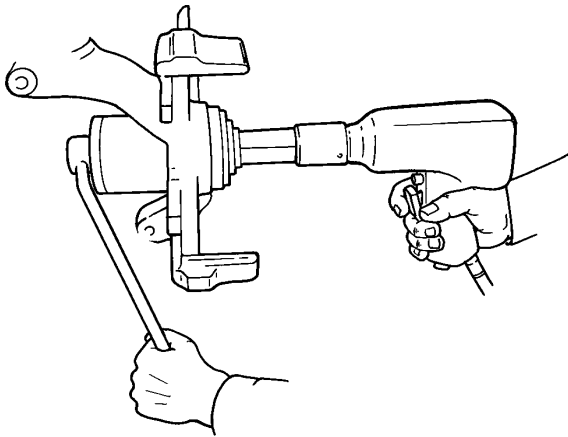
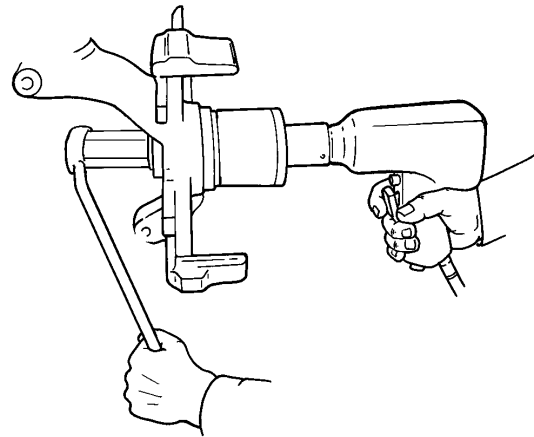

Figure 3
Figure 4
3. Use a wrench to hold the forcing screw (Figure 3) or forcing screw nut (Figure 4), and press out the worn bearing.